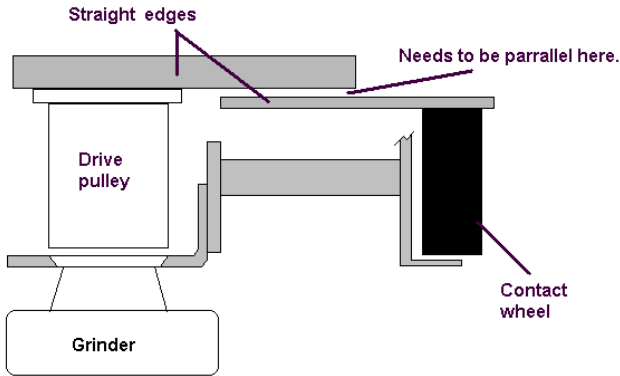

Figure 4
9. Finger tighten the nuts and retighten the nuts in a sequence so as to pull the arm into a square set up. This is a trial and error set up and may take a few attempts to get the alignment correct. See figures 4, 5 & 6.